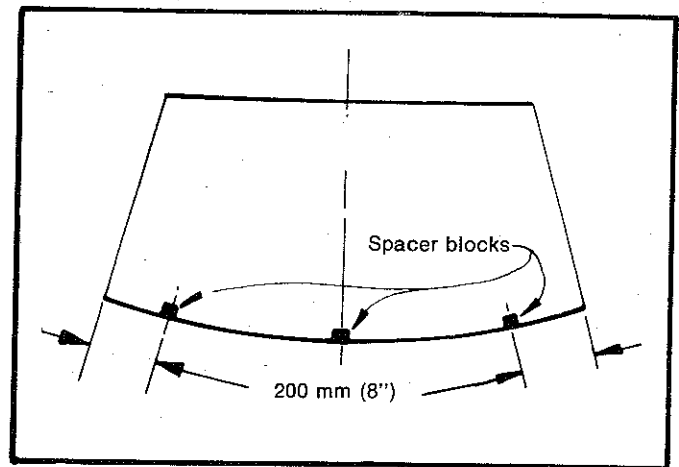

Fig. 9—Positioning glass spacers
(3) Position the three spacer blocks as shown in Fig. 9. The spacer blocks are supplied in the kit.